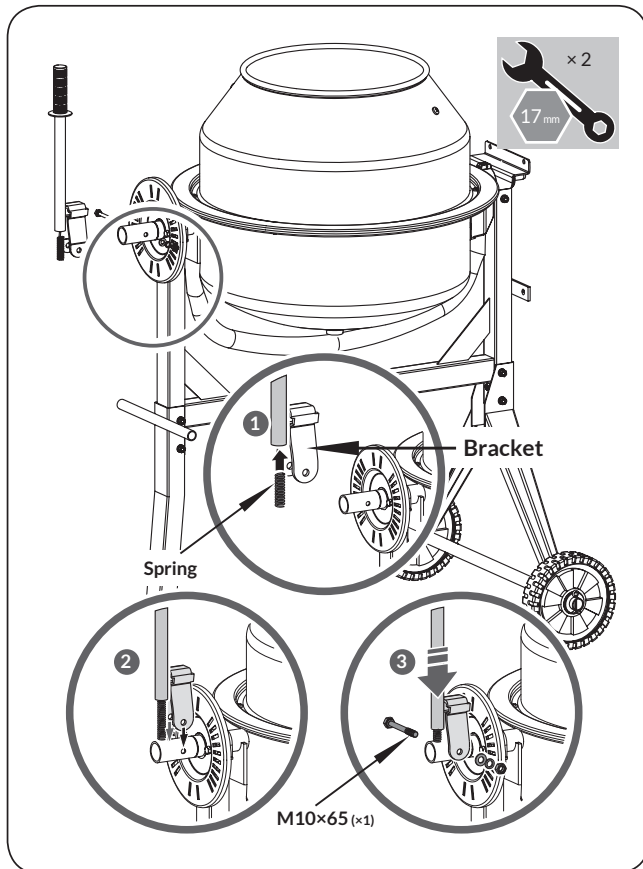

**Figure 5a**
1. Slide the locking plate over the large diameter shaft (at the “leg side” of the frame) with the rim facing inwards as shown. Insert two M8×25 bolts into the mounting holes, and secure each with a nut, lock washer and flat washer. (See **Figure 5a**)